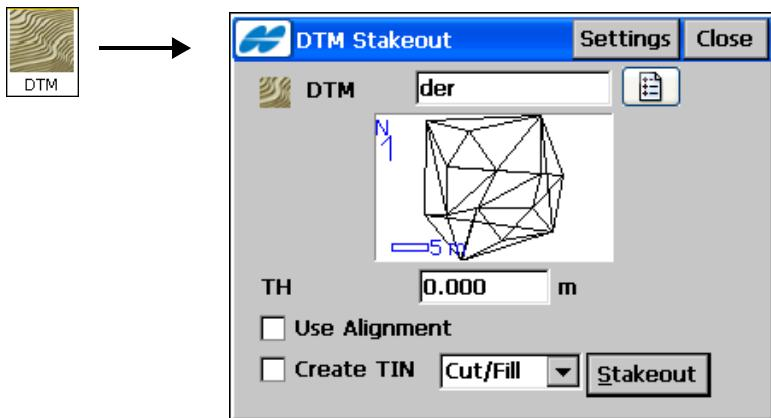

Figure 10-24. DTM Stakeout
To start the DTM (Digital Terrain Model) stakeout, select the **DTM** icon. The **DTM Stakeout** screen displays (Figure 10-24).
- **Open** – opens the selected file in the **DTM Stake** screen (Figure 10-24 on page 10-26).